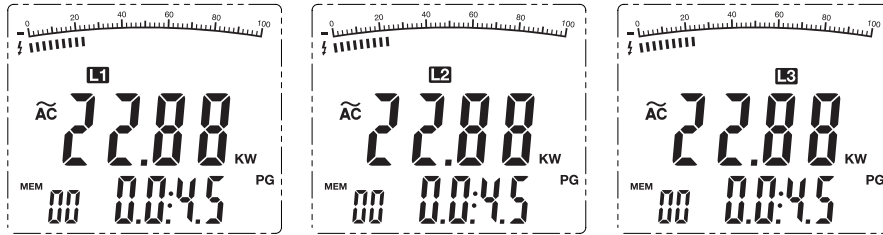

Figure 8
3. Set the meter to **kW**. The dual display shows the Active power kW value and the Phase Angle (PG) value.
4. Press the **L1-L2-L3** button to choose the first phase **L1** (see figure 8).
5. Press the  $\Sigma$  button to save and sum the measured value for **L1**. (see Figure 8)
7. Press the **L1-L2-L3** button to choose the first phase **L2**. The primary display shows the kW for phase L1 and the secondary display shows the Phase angle (PG).
8. Press the  $\Sigma$  button to save and sum the measured value for **L2**. (figure 8). The primary display shows the kW for phase L2 and the secondary display shows the Phase angle (PG).
10. Press the **L1-L2-L3** button to choose the first phase **L3**. The primary display shows the kW for phase L3 and the secondary display shows the Phase angle (PG).
11. Press the  $\Sigma$  button to save and sum the measured value for **L3**. (figure 8)
4. Press the **L1-L2-L3** button to choose the first phase **L1** (see figure 8). The primary display shows the kW for phase L1 and the secondary display shows the Phase angle (PG).
7. Press the **L1-L2-L3** button to choose the first phase **L3**. The primary display shows the kW for phase L3 and the secondary display shows the Phase angle (PG).
8. Press the  $\Sigma$  button to save and sum the measured value for **L3**. (figure 8)